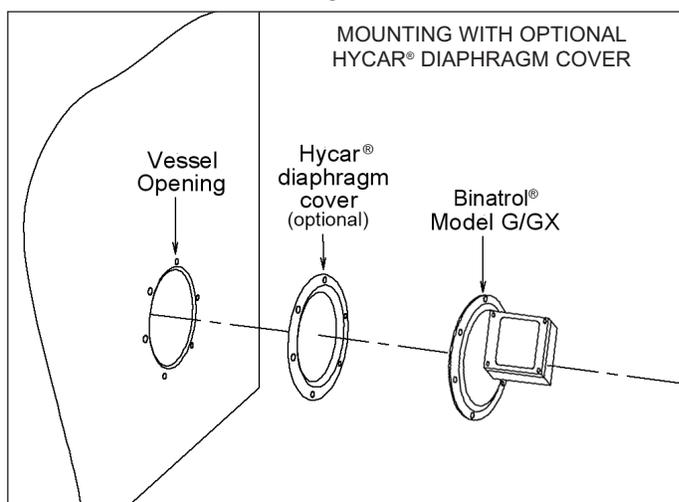

Figure 3
3) Optional Hycar® Diaphragm Cover (See Figure 3) -
If the optional Hycar® (Nitrile Rubber) diaphragm cover is being used, please see Figure 3 for an installation diagram.